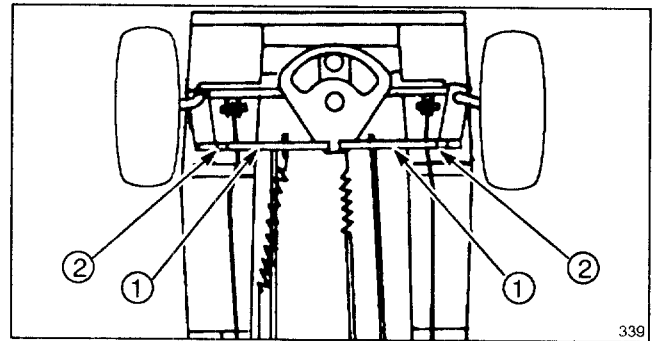

Figure 27
1. To align front wheels, loosen jam nut and turn tie rod until centerline distance across front of wheels (d') is .06 inch (1.5 mm) to .25 inch (6.3 mm) less than centerline distance across rear of front wheels (d'') (Figs. 27 & 28).